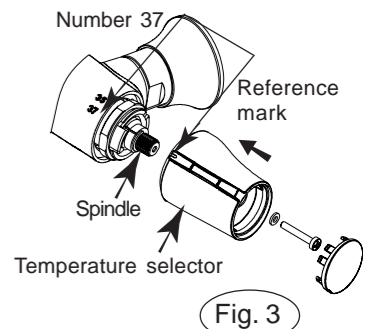

Fig. 3
- Install the temperature handle, (without turning the spindle) lining up the number 37 with the mark. Tighten the assembly with the screw. (See fig. 3)